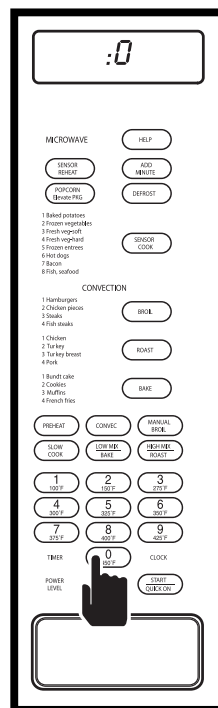

Figure 3-66.
2. Press the number 0 key, “ :0 - PRESS - CLOCK ” will flash on display (See Figure 3-66).